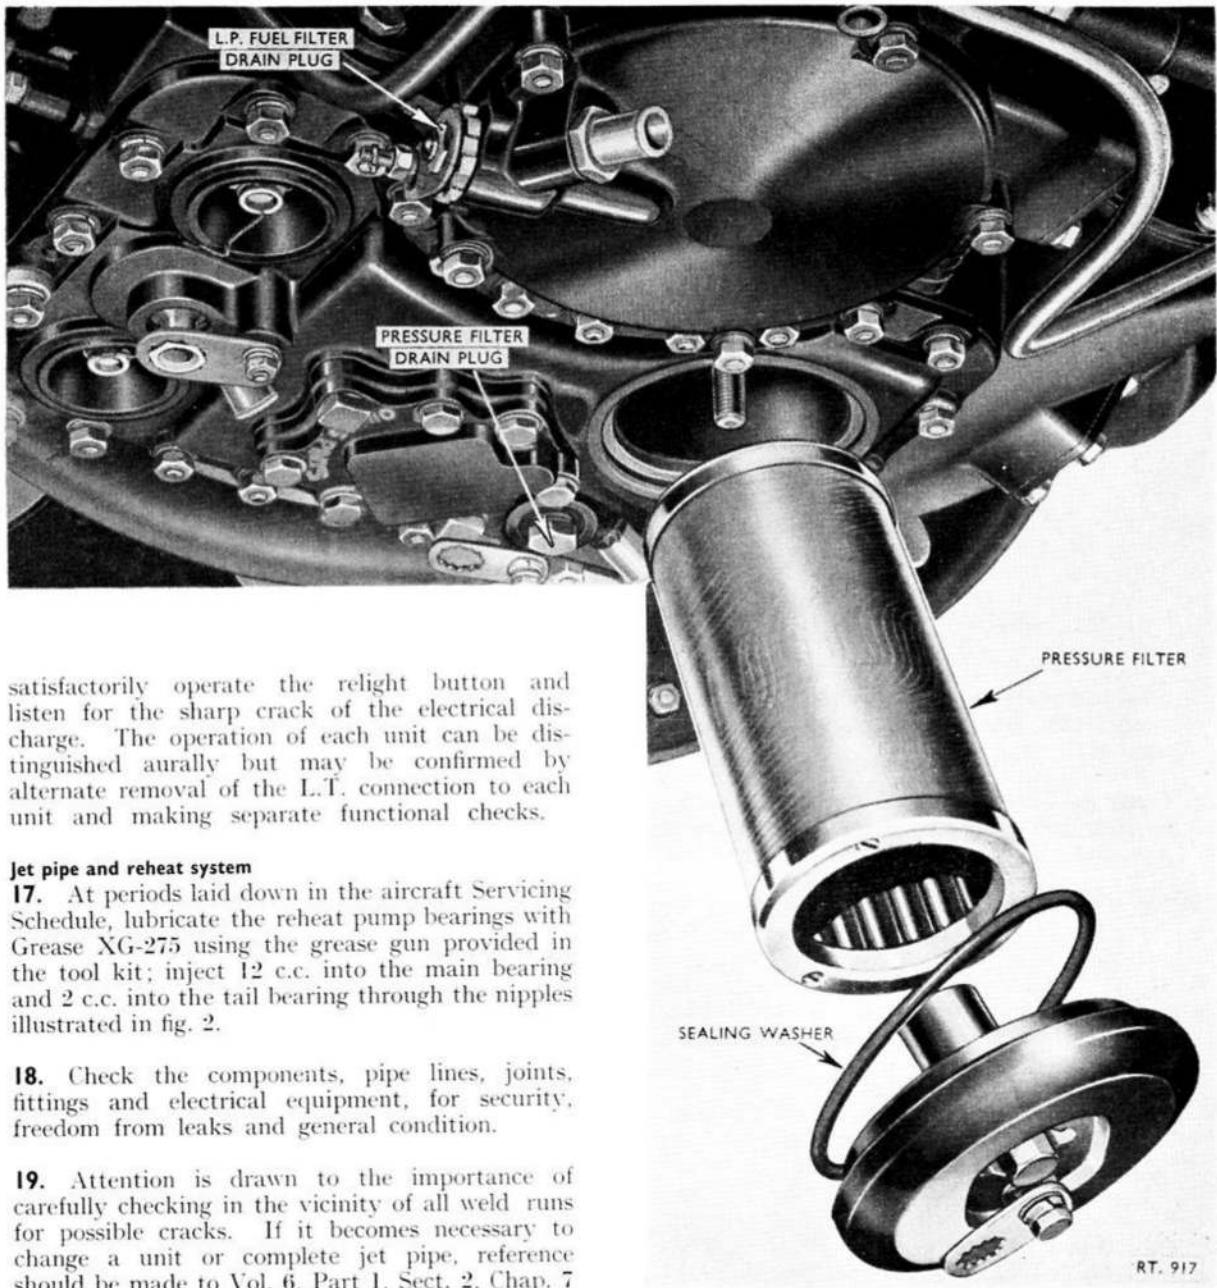

Fig. 1. Oil filter removal and fuel filter drain plug
- (1) Clean the filter casing externally.
- (2) Ensure that the H.P. cock is OFF
- (3) Turn ON the L.P. fuel cock.
- (4) Switch ON the L.P. fuel pump.
- (5) Detach the drain plug lock plate and unscrew the plug (*fig. 1*) by its hexagon to allow approximately 1 pint of fuel to drain into a glass container.
- (6) Tighten and lock the drain plug.
- (7) Switch OFF the L.P. pump.
- (8) Turn OFF the L.P. fuel cock.